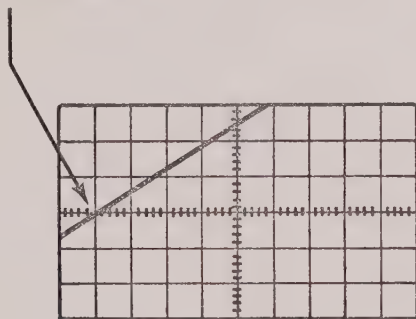

FIGURE 3.2.8
3.2.8 TRIANGLE LINEARITY (Refer figure 3.2.8)